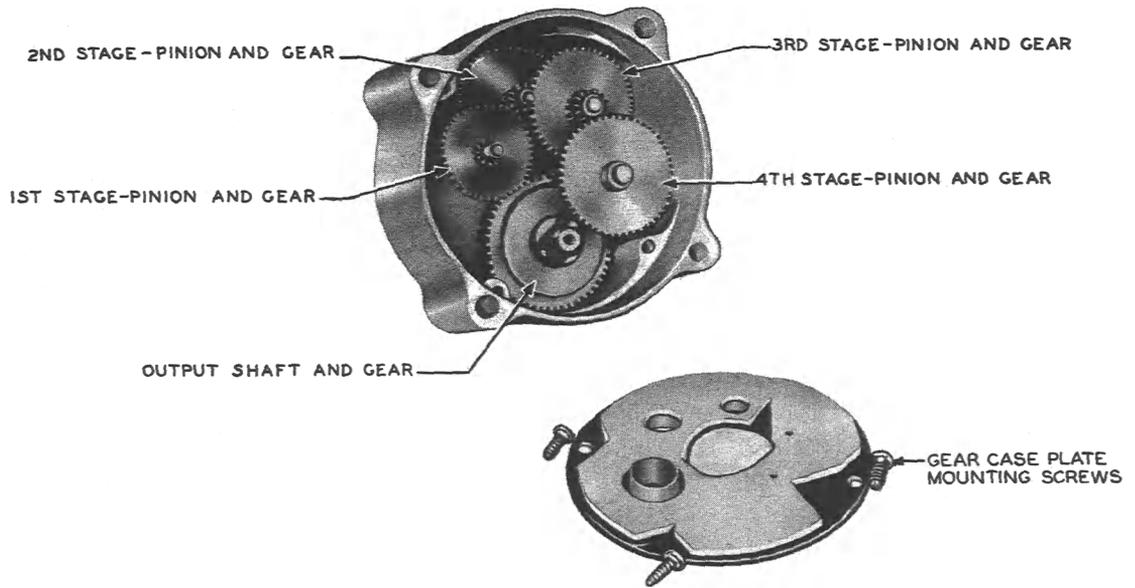

Fig. 6 - Gear Case (Holtzer-Cabot)
3. To remove manufacturer's catalog numbers of parts (2.02, Fig. 6).